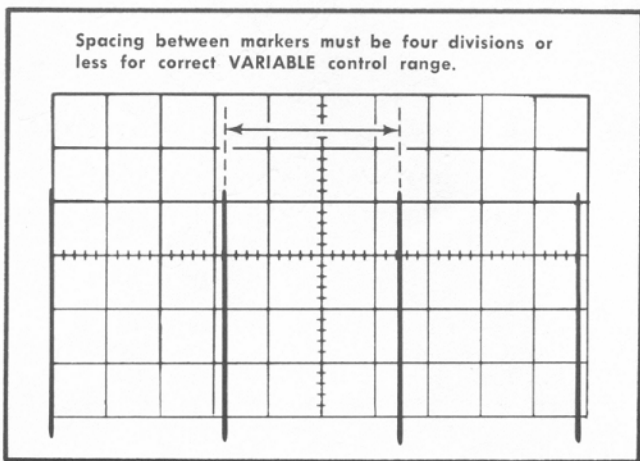

Fig. 6-50. Typical CRT display when checking A and B VARIABLE control range.
- f. CHECK—CRT display for four-division maximum spacing between markers (indicates adequate range for continuously variable sweep rates between the calibrated steps; see Fig. 6-50). UNCAL A OR B light must be on when A VARIABLE control is not in CAL position.
- d. CHECK—CRT display for four-division maximum spacing between markers (indicates adequate range for continuously variable sweep rate between the calibrated steps; see Fig. 6-50). UNCAL A OR B light must be on when the B TIME/DIV VARIABLE control is not in CAL position.